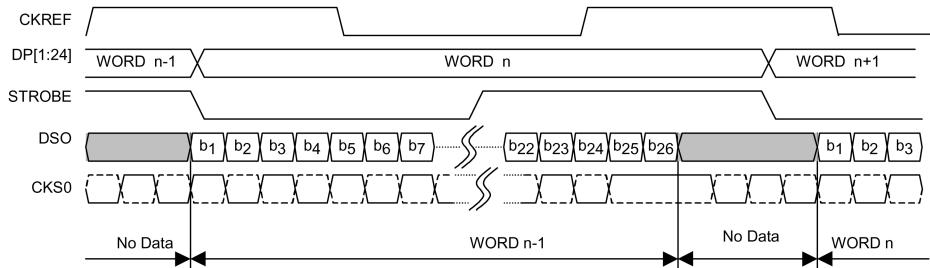

FIGURE 2. Serializer Timing Diagram (CKREF does not equal STROBE)
**Serializer Operation: (Figure 2)****DIRI equals 1****CKREF does not equal STROBE**